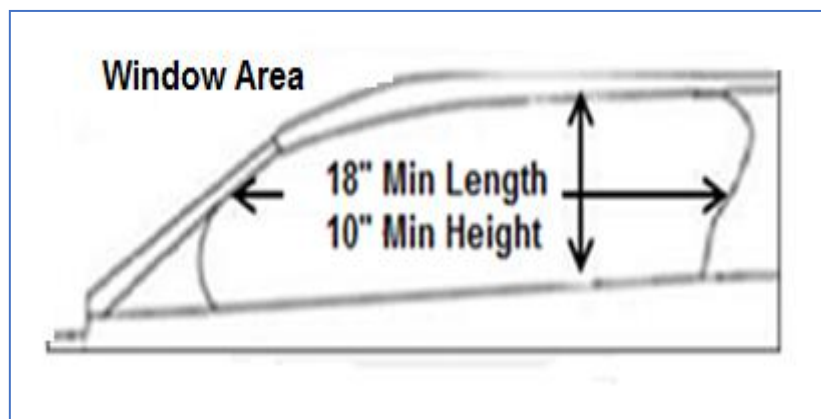

Figure 10
11.1 Driver and passenger side windows must have 18" min side opening length (No Tolerance). *(Figure 10)*
11.2 Driver and passenger side windows must have 10" minimum side opening height front and rear (No Tolerance). *(Figure 10)*